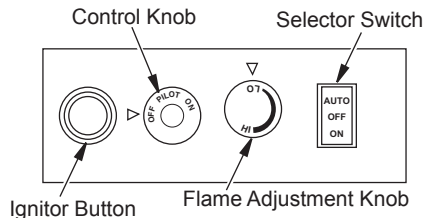

Figure 11 - Control Knob and Ignitor Button Locations
5. Wait five (5) minutes to clear out any gas. Then smell for gas, including near the floor. If you smell gas, STOP! Follow “B” in the safety information, page 10. If you don’t smell gas, go to the next step.
6. Press in and turn control knob counterclockwise  to the PILOT position. Press in control knob for five (5) seconds (see Figure 11).